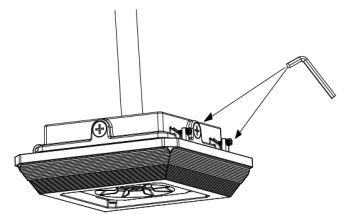

Figure 1-7
7. Lock the two end cap screws, the product is installed. Figure 1-7